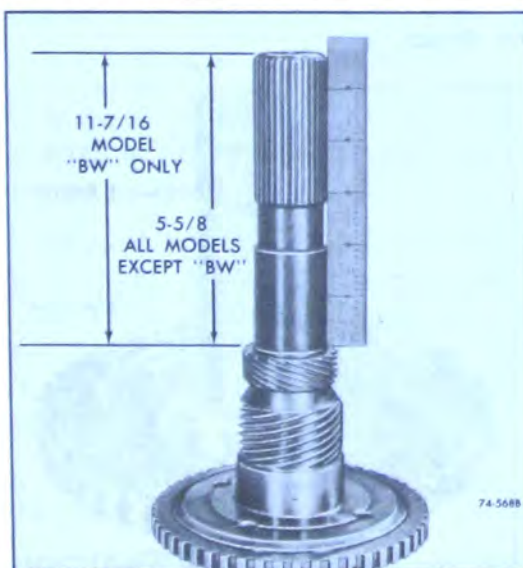

Figure 74-568
b. Install new speedometer drive gear and press to 5-5/8" for all models except "BW" which is 11-7/16". See Figure 74-568.